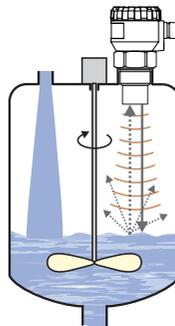

Fig. 10: Moderately stirred surface
- Scattering or attenuation of the ultrasonic signal can result if the surface level has been **moderately stirred** or **rippled** (by a mixer, coming liquid etc.). It can result in reduction of the measurement range or unreliable function of the level meter (Fig. 10).